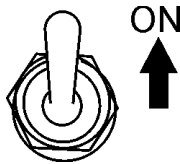

Figure 19. Idle Control Switch (ON)
- Let the engine idle for five minutes with the **Idle Control Switch** (Figure 19) placed in the **ON** position.
Placing the idle control switch (Figure 19) in the **OFF** position allows the engine to operate at a maximum speed of about 3600 RPM's.